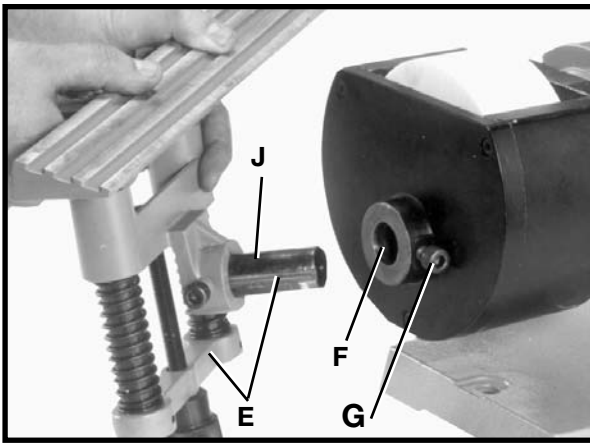

Fig. 49
3. Remove sliding tool rest and mounting post (E) Fig. 49, from the wet wheel side of the machine and insert post of tool rest assembly into hole (F). Tighten screw (G) into groove (J) of mounting post (E).